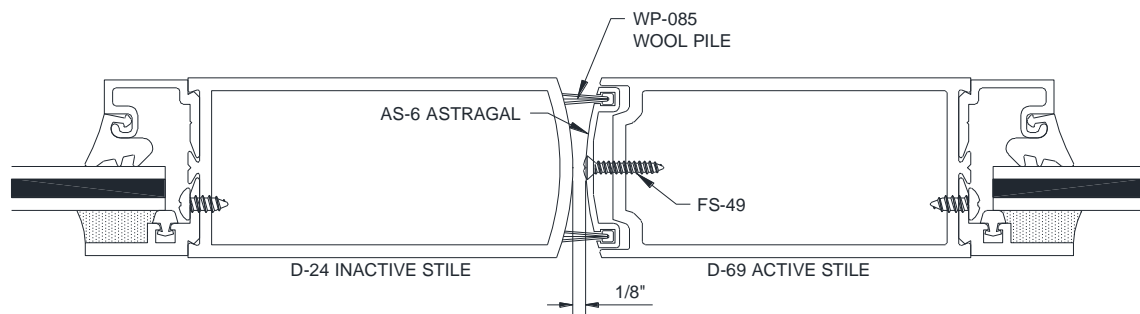

Figure 45: Astragal Adjustment
17.5 Adjust the **AS-6** Astragal by loosening or tightening the **FS-49** fastener. Reference *Figure 45* as required.